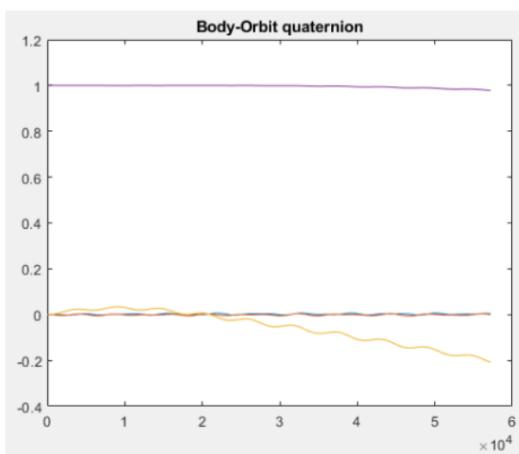
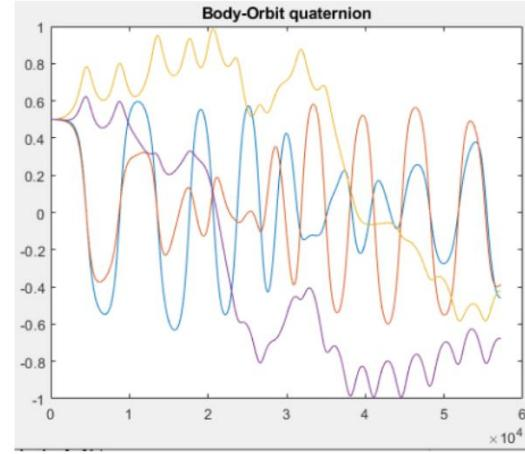

Fig. 1: Starting from [0,0,0,1]
Fig 2: Starting from [0.5,0.5,0.5,0.5].
5. Verify that starting from [0,0,0,1] and 0 angular rates in the body frame, the attitude quaternion (body to orbital) after 10 orbits looks like Fig.1, and starting from [0.5,0.5,0.5,0.5] yields Fig. 2 considering only disturbance torques. (No controller)